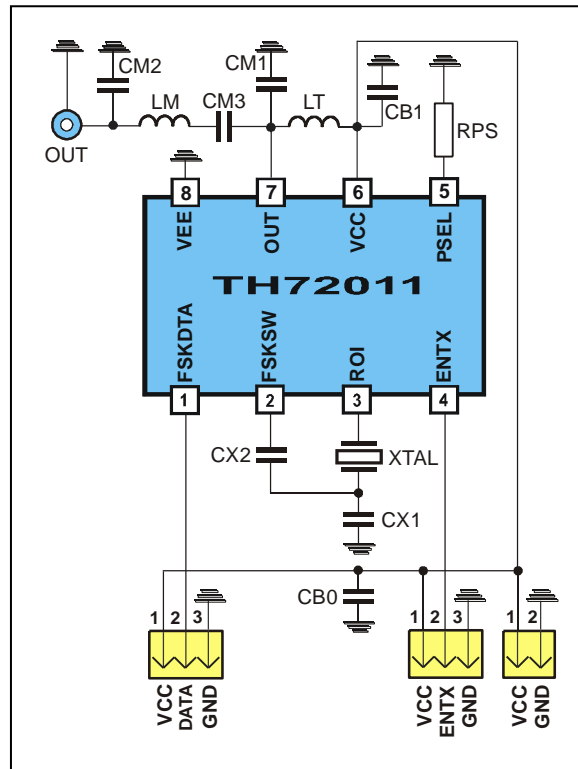

Fig. 18: Test circuit for FSK with 50 Ω matching network
typical values at $T_A = 23\text{ }^\circ\text{C}$ and $V_{CC} = 3\text{ V}$; test circuit shown in Fig. 18, $f_c = 433.92\text{ MHz}$
- Data according to test circuit in Fig. 18
6.1. Test circuit component list to Fig. 18